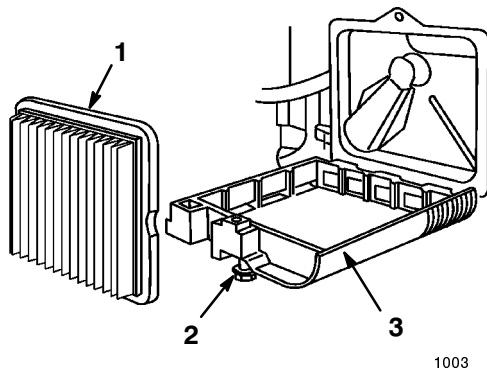

Figure 17
3. Loosen the screw that secures the air filter cover to the engine (Fig. 17).
4. Tilt the air cleaner cover down and clean the cover thoroughly (Fig. 17).
5. Remove and discard the paper air cleaner filter (Fig. 17).
6. Remove and discard the paper air cleaner filter (Fig. 17).